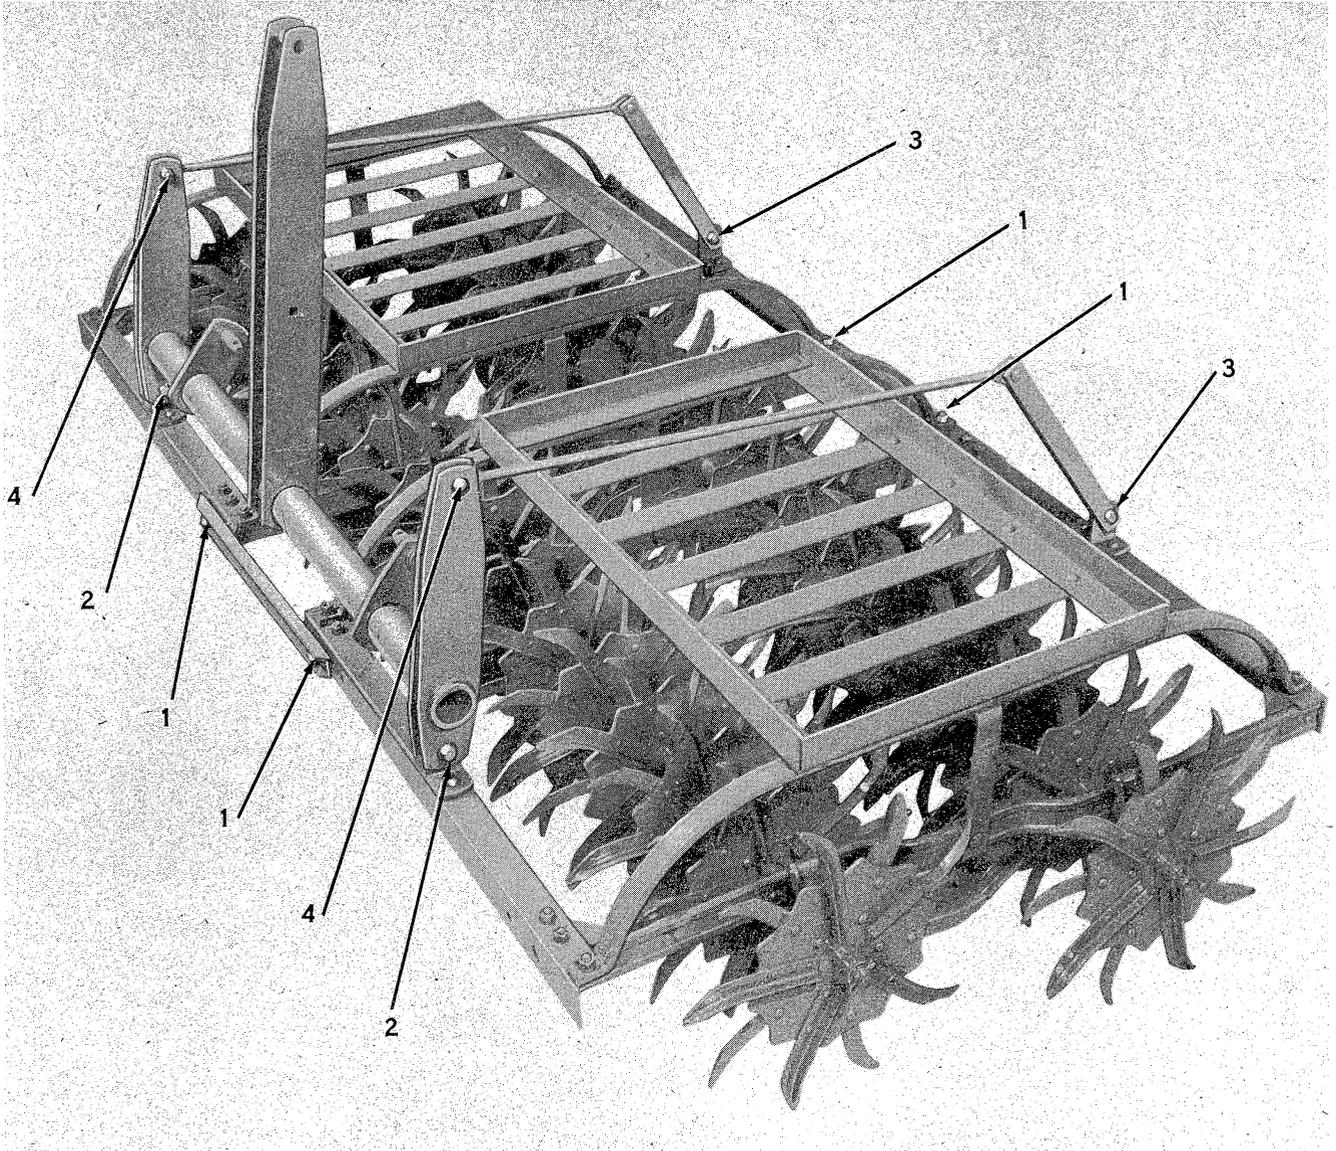

Fig. 5
9. Couple the two gang frames together at front and rear with the channelled section connectors, points 1, Fig. 5. Note: Be sure to use the spacers provided to allow for flexibility between the sections.